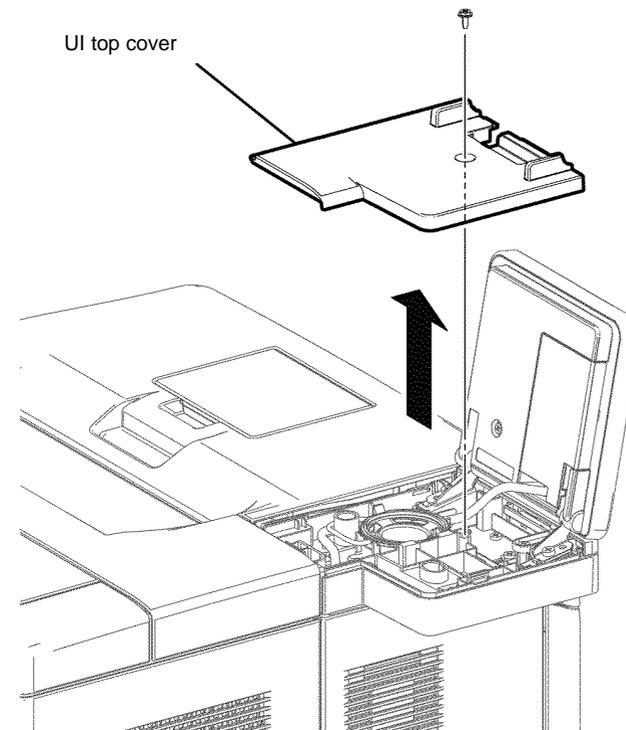

Figure 1 UI Top cover removal
1. Remove one screw (black, tapping, 6mm), then remove the UI top cover, Figure 1.